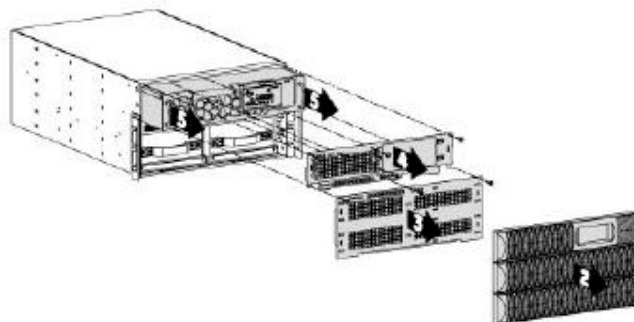

FIG 75 – 10KVA POWER UNIT REMOVAL
2. Remove the 3 front covers (FIG 75).
8. Reposition the power module cover and re-affix with the 5 screws (FIG 75).
9. Re-affix the 3 front covers (FIG 75).